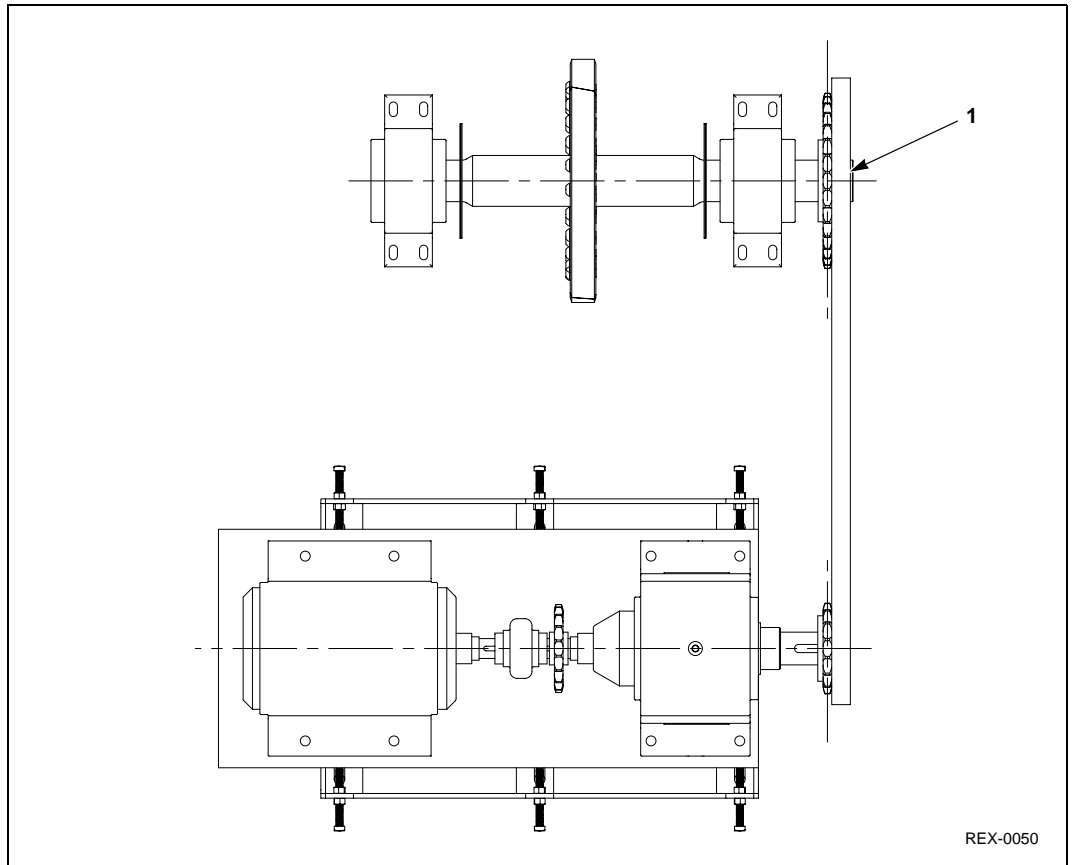

Figure 4-51: *Setting Sprockets or Sheaves on Common Centerline*
4. Check sprockets or sheaves are on a common centerline using a straight edge or wire. Check sprockets or sheaves are positioned upon the shafts as in accordance to dimensions established on engineering drawings. See Figure 4-51. If a sprocket or sheave must be moved to achieve a common center, make sure it is axially aligned with shaft as in Step 2.